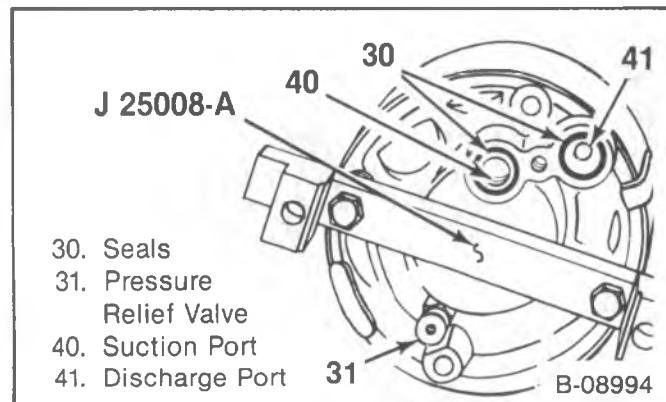

Figure 5—Compressor in Holding Fixture
- Attach J 25008-A to the compressor (figure 5).